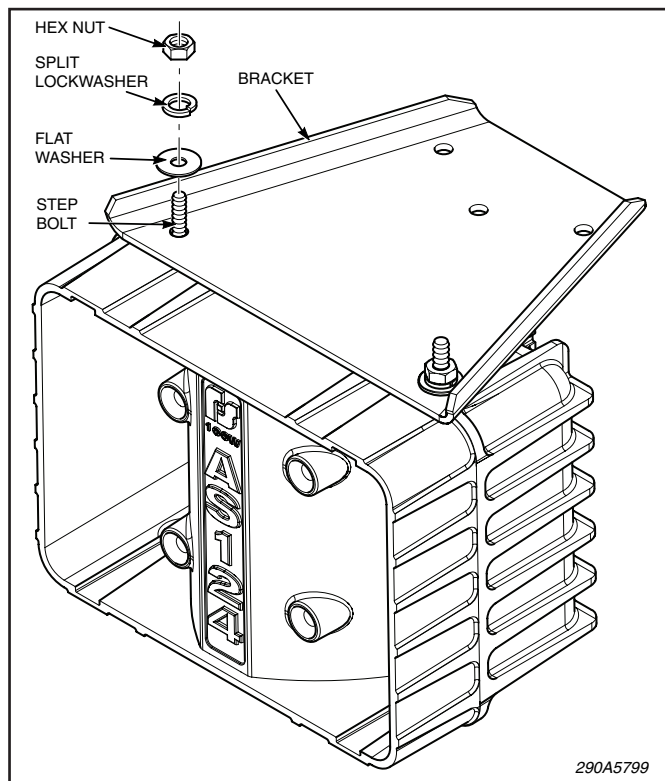

Figure 1.
2. See figure 1. Mount the speaker to the bracket using 1/4-20 step bolts and hardware supplied with the speaker.